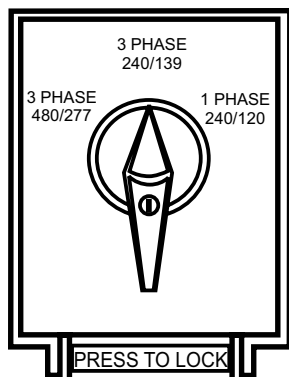

Figure 9. Voltage Selector Positions
2. Move the Voltage Selector (Figure 9) to the desired position.